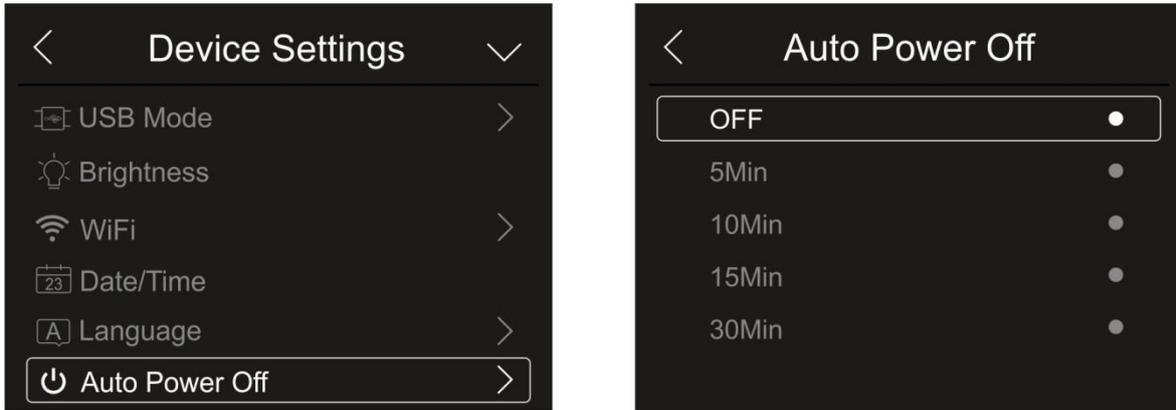

Fig. 18: Auto power off setting
1. Touch item “Auto Power Off” to set the instrument's auto power off time. The screen in Fig. 18 – right side appears on the display: